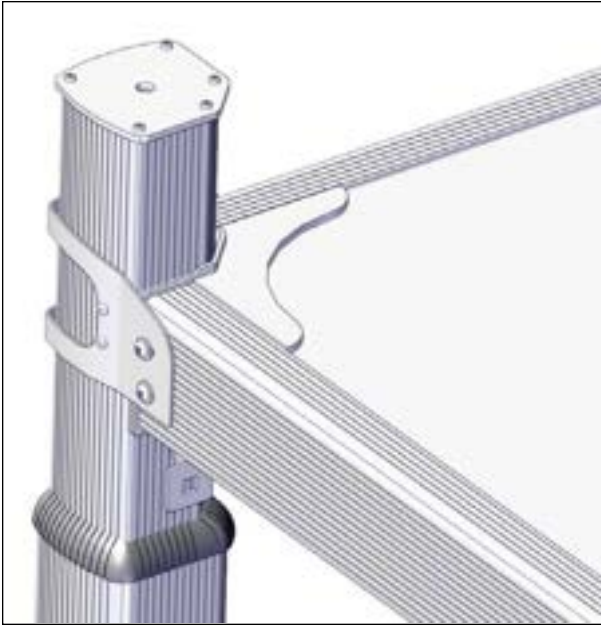

FIGURE 66: SLEEVE INSTALLATION CHECKING
28. Check the installation of the brackets by trying to lift each sleeve. Review previous steps for any broken screws or to retighten screws if the sleeve keeps moving see Figure 66.